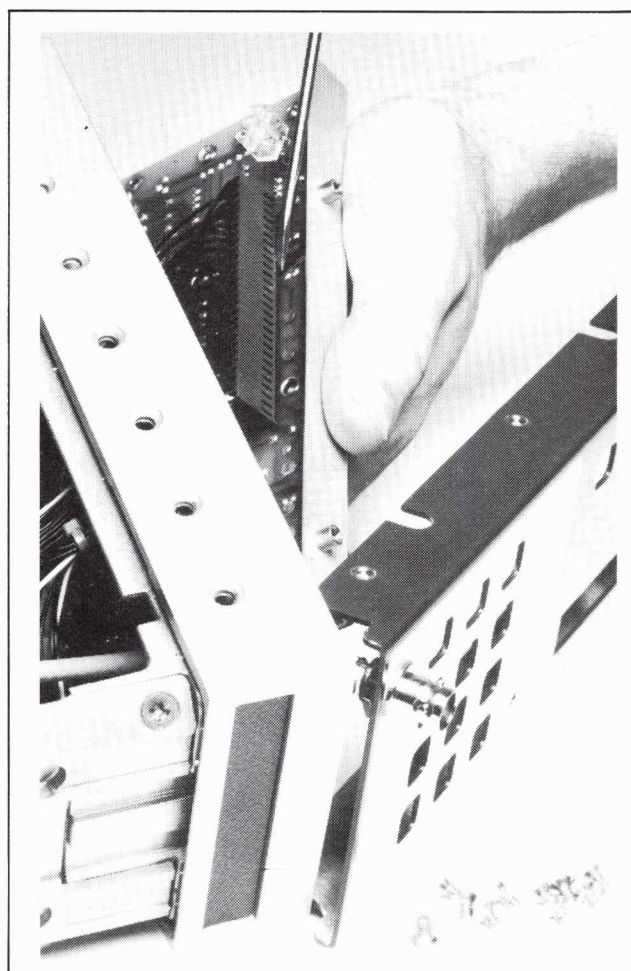

Figure 5-16. Display Connector Removal.
i. Using a small flat-blade screwdriver, free the Display P.C. Board assembly from the instrument by removing the 38 pin connector from Display P.C. Board assembly (Figure 5-16).